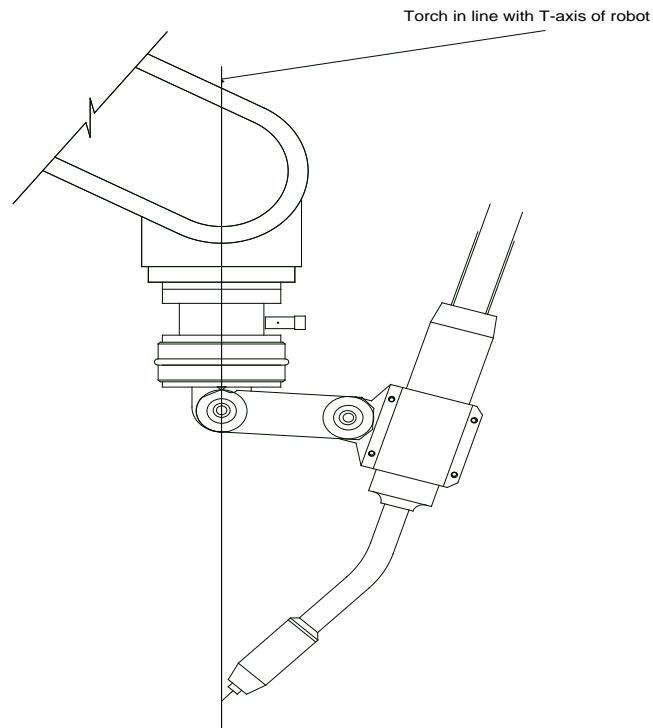

Figure 10-3 Torch Alignment with T-Axis
8. Rotate the torch until it is in line with the T-axis of the robot (see Figure 10-3).